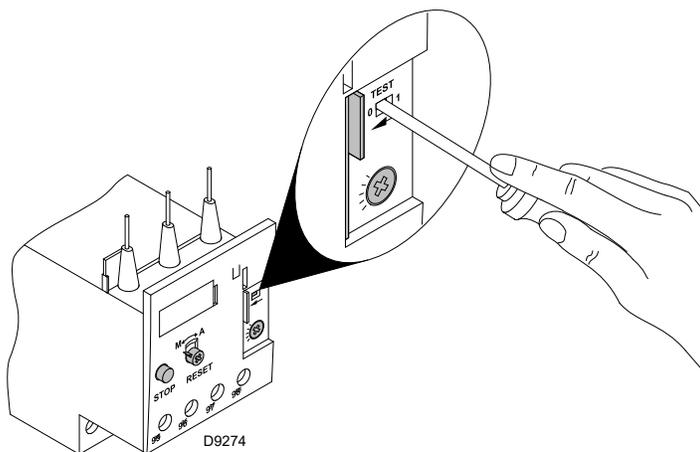

Fig. 23
- To test the thermal relay, insert a screwdriver in the window "TEST" (Fig. 23) and move it in the sense of the arrow (towards right).